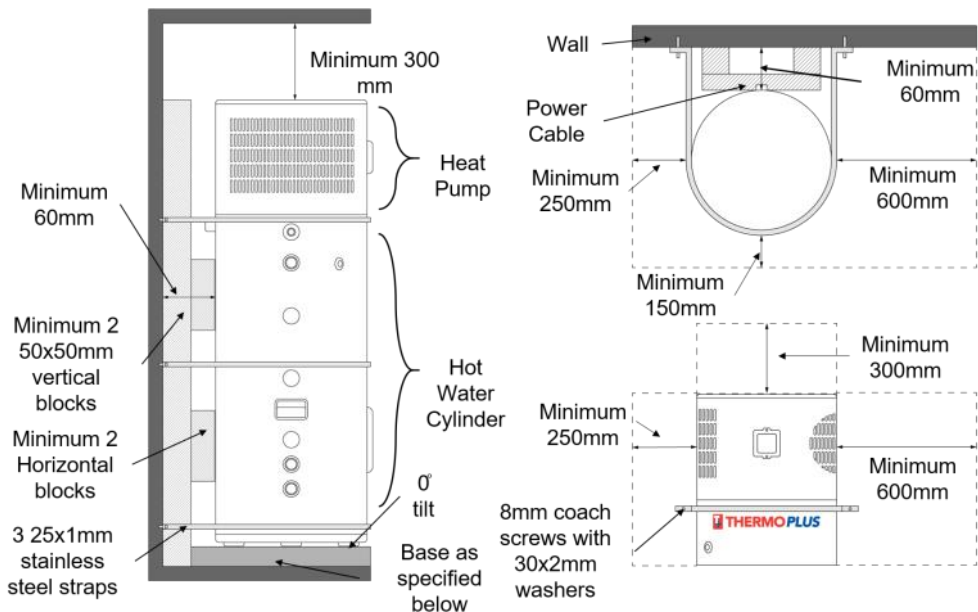

Figure 4: TH-260D1 installation base requirements and concrete base example
- The unit must also be restrained with 3 25 x 1 mm stainless-steel straps tensioned when fixed in place. The straps must be fixed to the wall framing with 8 mm coach screws with 30 x 2 mm thick washers. Figure 4 shows the items required to adequately support the unit.
- Ensure that sufficient clearances are allowed according to Figure 4.
- Allow for sufficient clearances during installation according to Figure 4.
- A pressure limiting device, such as a PRV, MUST BE connected to the mains cold water supply (point 8 in Figure 4).
- An isolation valve must also be installed on the hot water outlet line. This isolates the hot water system from the rest of the water supply to the household. This is important to avoid disrupting the household water supply when servicing, draining, maintaining, and replacing the unit. Refer to Figure 4 for all the locations where an isolation valve must be installed.